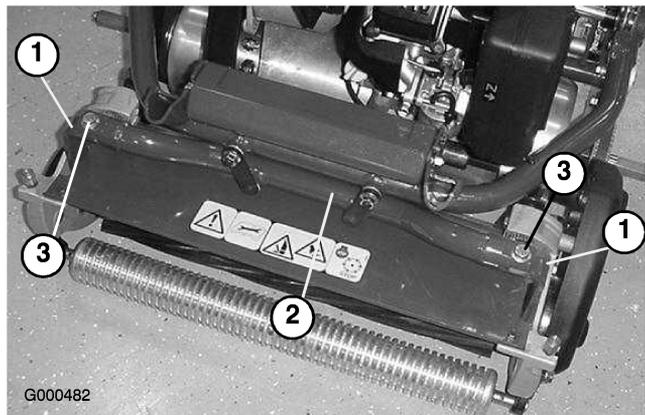

Figure 45
4. Remove (2) capscrews securing cutting unit pivot arms to traction unit frame tube (Figure 45).
5. Rotate pivot arms forward (Figure 45) and rest traction unit on restrained kickstand.